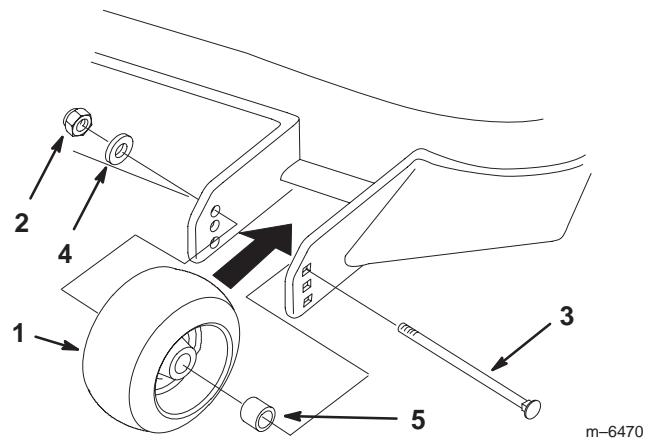

Figure 17
1. After adjusting height-of-cut, check the gage wheels so that there is a minimum of 3/8 inch (10 mm) clearance above the ground (Figures 17 and 18).
2. If adjustment is needed, remove the bolt, washer(s) and nut (Figures 17 and 18).
3. Select a hole position so the gage wheels are a minimum of 3/8 inch (10 mm) off the ground (Figures 17 and 18).
4. Install the bolt, washer(s) and nut (Figures 17 and 18).